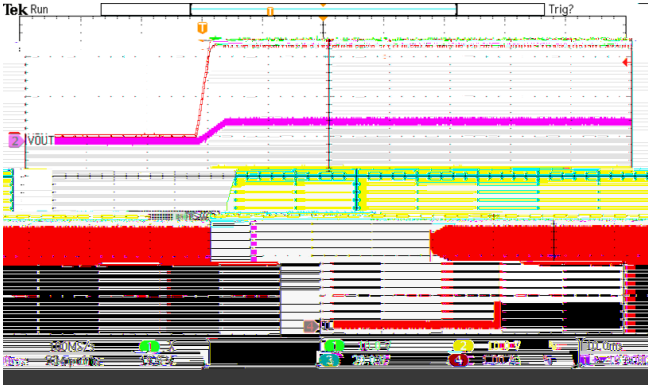

Figure 17. Power Up
The SCT2322 features external programmable output voltage by using a resistor divider network R1 and R2 as shown in the typical application circuit Figure17. Use equation (11) to calculate the resistor divider values.